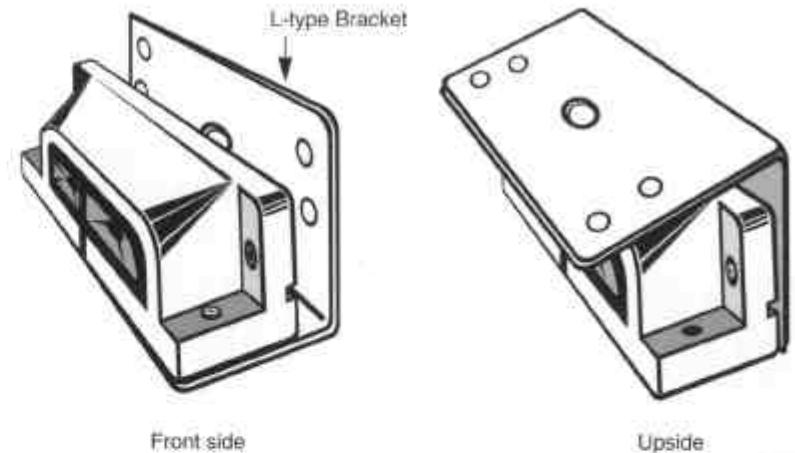

Fig. 4
3. Determine the proper place to mount the Detectors on the rear of the vehicle so that the pattern of ultrasound fully covers the rear path of vehicle from side to side and 9 feet to the rear. While the system is operational, temporarily connect the Display cable (Green arrow) to the DP cable (Green) coming from Control Box. Now the system will function. Test the proper positioning of the Detectors by placing an object (or person) in different points in the protection area in order to see when the alarm sounds. When the correct position is determined, use L-type Bracket or not. (See page 7 and Figs. 4 for Detector installation instructions).